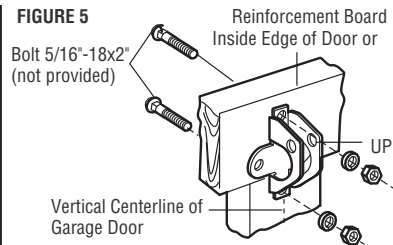

FIGURE 5
- Use top and bottom or side to side door bracket holes. Drill 5/16" holes through the door and secure bracket with 5/16"x2" carriage bolts, lock washers and nuts (not provided). (Figure 5)